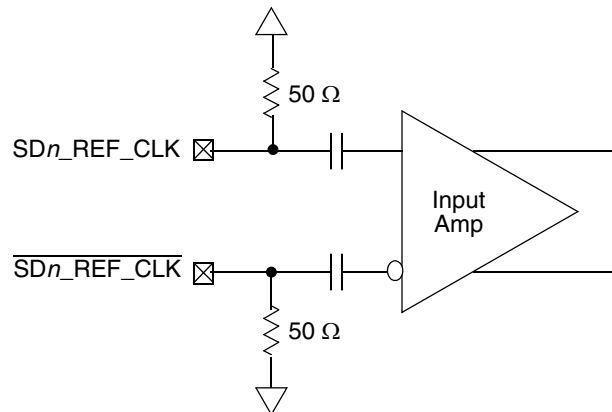

Figure 52. Receiver of SerDes Reference Clocks
Figure 52 shows a receiver reference diagram of the SerDes reference clocks.
- The $\overline{\text{SDn_REF_CLK}}$ and SDn_REF_CLK are internally AC-coupled differential inputs as shown in Figure 52. Each differential clock input ($\overline{\text{SDn_REF_CLK}}$ or SDn_REF_CLK) has a 50 Ω termination to SGND_SRDSn (xcorevss) followed by on-chip AC-coupling.